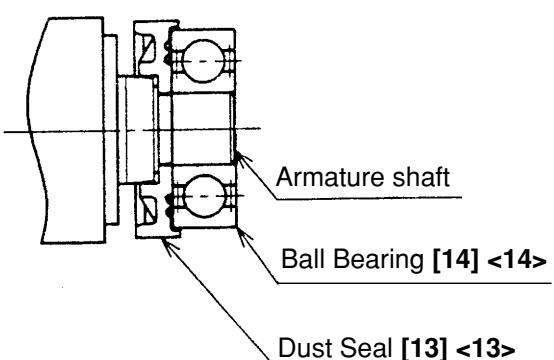

Fig. 6
- (1) Generously lubricate the teeth of Gear [17] <17> and Pinion [6] <6> with grease. Rub grease onto the teeth with your fingers so that the grease reaches each tooth bottom. Note that the Gear [17] <17> and Pinion [6] <6> if under-lubricated may wear at a faster rate.
- (2) Be sure to soak the inner diameter of the Felt Packing [21] <21> with machine oil. Otherwise, its dust-sealing function will fail to work properly, resulting in an earlier damage of the Ball Bearing [20] <20>.
- (3) When replacing the Armature [9] <9> and the Ball Bearing [14] <14> on the commutator side, press inward on the Dust Seal [13] <13> while taking care of its direction until the end face of the Dust Seal [13] <13> hits against the butting surface of the Armature [9] <9> and make sure that Dust Seal [13] <13> cannot turn freely. (See Fig. 6)